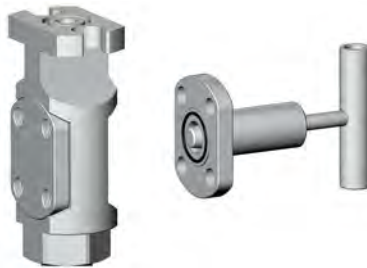

FIGURE 3
9. Install an o-ring on bonnet flange. (See Figure 3)